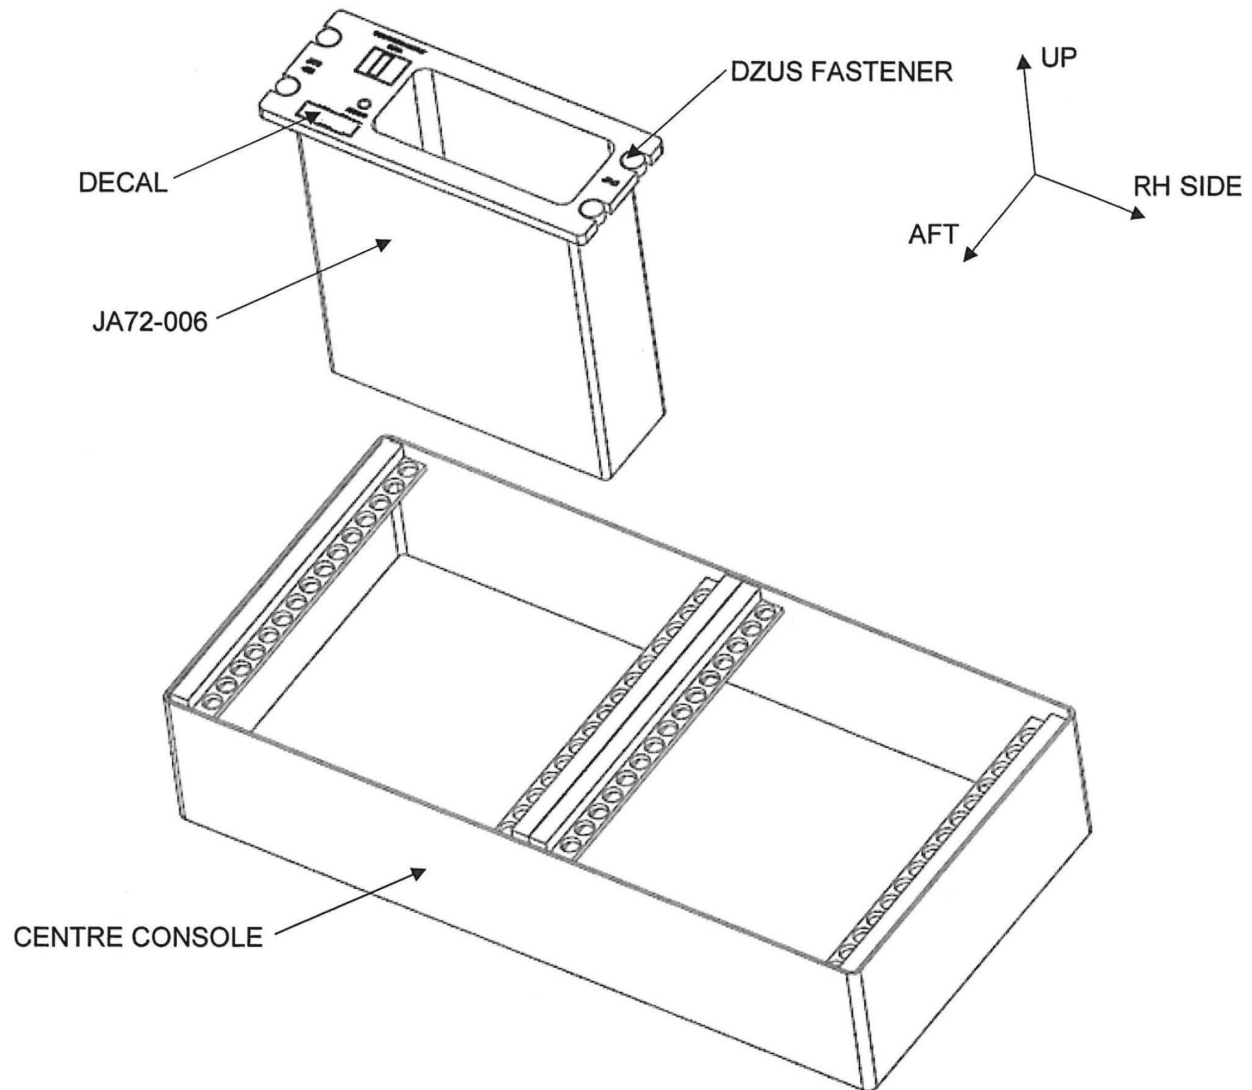
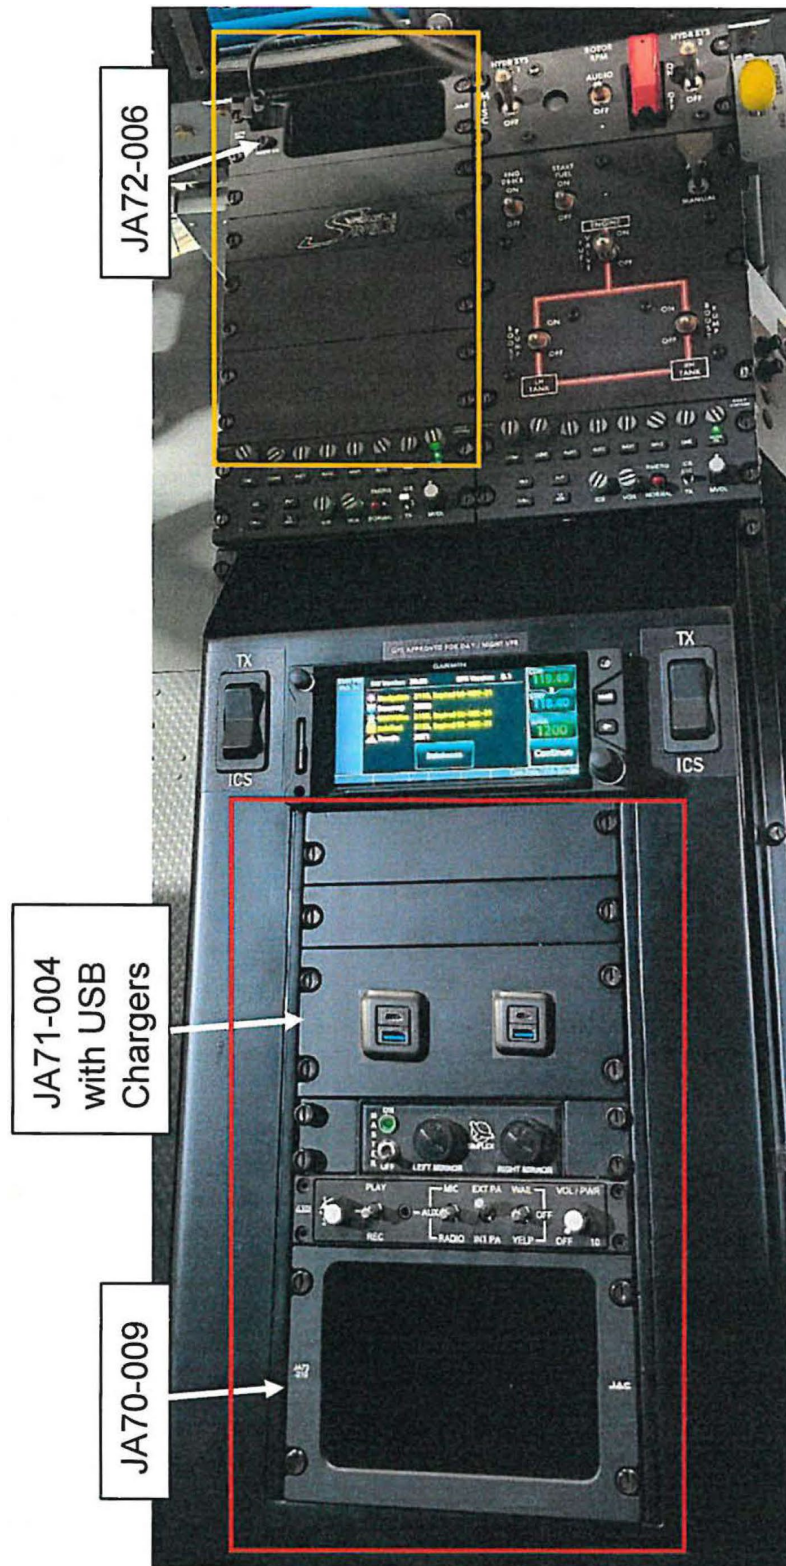

Figure 1 – JA72-006 Glovebox Installation
Figure 2 – JA72-006, JA70-009 and JA71-004 with -011 USB Chargers Installation Location
5. Insert unit into proposed location. See Figure 1 and Figure 2. The unit can be installed in any location inside the yellow box shown in Figure 2.
7. Apply decal "USB NOT IN USE" (PTouch or equivalent), see Figure 1.
1. Insert unit into the location of the Avionics Riser Panel shown in Figure 2. The unit can be installed in any location inside the red box.
5. Install the modified Dzus blanking panel into the location of the Avionics Riser Panel shown in Figure 2. The unit can be installed in any location inside the red box.